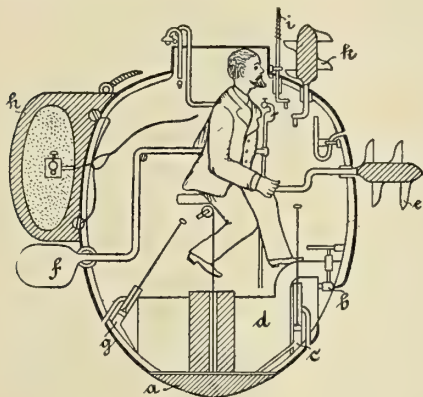

FIG. 1.
*Bushnell's Boat, 1775.*—At the breaking out of the war of the Revolution in the year 1775, David Bushnell, of Connecticut, built a submarine boat which, according to the sketches and descriptions, is reproduced in Figs. 1, 2 and 3. In appearance it looked like two turtle shells set back to back. It was built of wood and measured about 7 1-2 ft. dia. It carried only one man and had only enough air capacity for submersion of about a half hour. The boat was kept stable by attaching a lead weight at the bottom which could be detached by the operator at any time in order to come to the surface quickly. Furthermore there was a sea cock *b* and ballast pump *c* and tank *d*, and this, in addition to the vertical propeller *k*, enabled the boat to either rise or sink. Its speed must have been very slow as it was operated simply by a small propeller *e*, turned by hand and a small rudder *f*. The rest of the outfit consisted of the bilge pump *g*, to remove any water which may have leaked into the apparatus, a glass water gauge closed at the top and open at the bottom, in combination with a scale by means of which the operator could judge of the depth, a compass and also a torpedo filled with gunpowder and equipped with a time fuse, so arranged that it could be detached from the boat by the operator at any time. In the year 1776 it was reported that an officer by the name of Lee had made the attempt to attach the torpedo to the English blockade ship *Eagle*, of 64 guns, which lay in New York harbor. It was furthermore reported that he did not succeed in attaching the torpedo as the attaching screw of the same came in contact with some iron part of the ship's body, and when he attempted to get another position under the boat he lost his way under the water and had to discontinue his efforts at daybreak. On his return he feared that he had been discovered by the enemy and therefore disconnected the torpedo from the boat in order to lighten her and increase his speed. An hour after his return the mine exploded. The clock work in the mine was supposed to start at the moment of detaching and had been set for twelve hours. The assertions made by Lee could never be verified, and it is, therefore, very probable that right in the beginning of the undertaking he had cast the dangerous torpedo adrift, and then quietly waited on the surface of the water for daybreak.